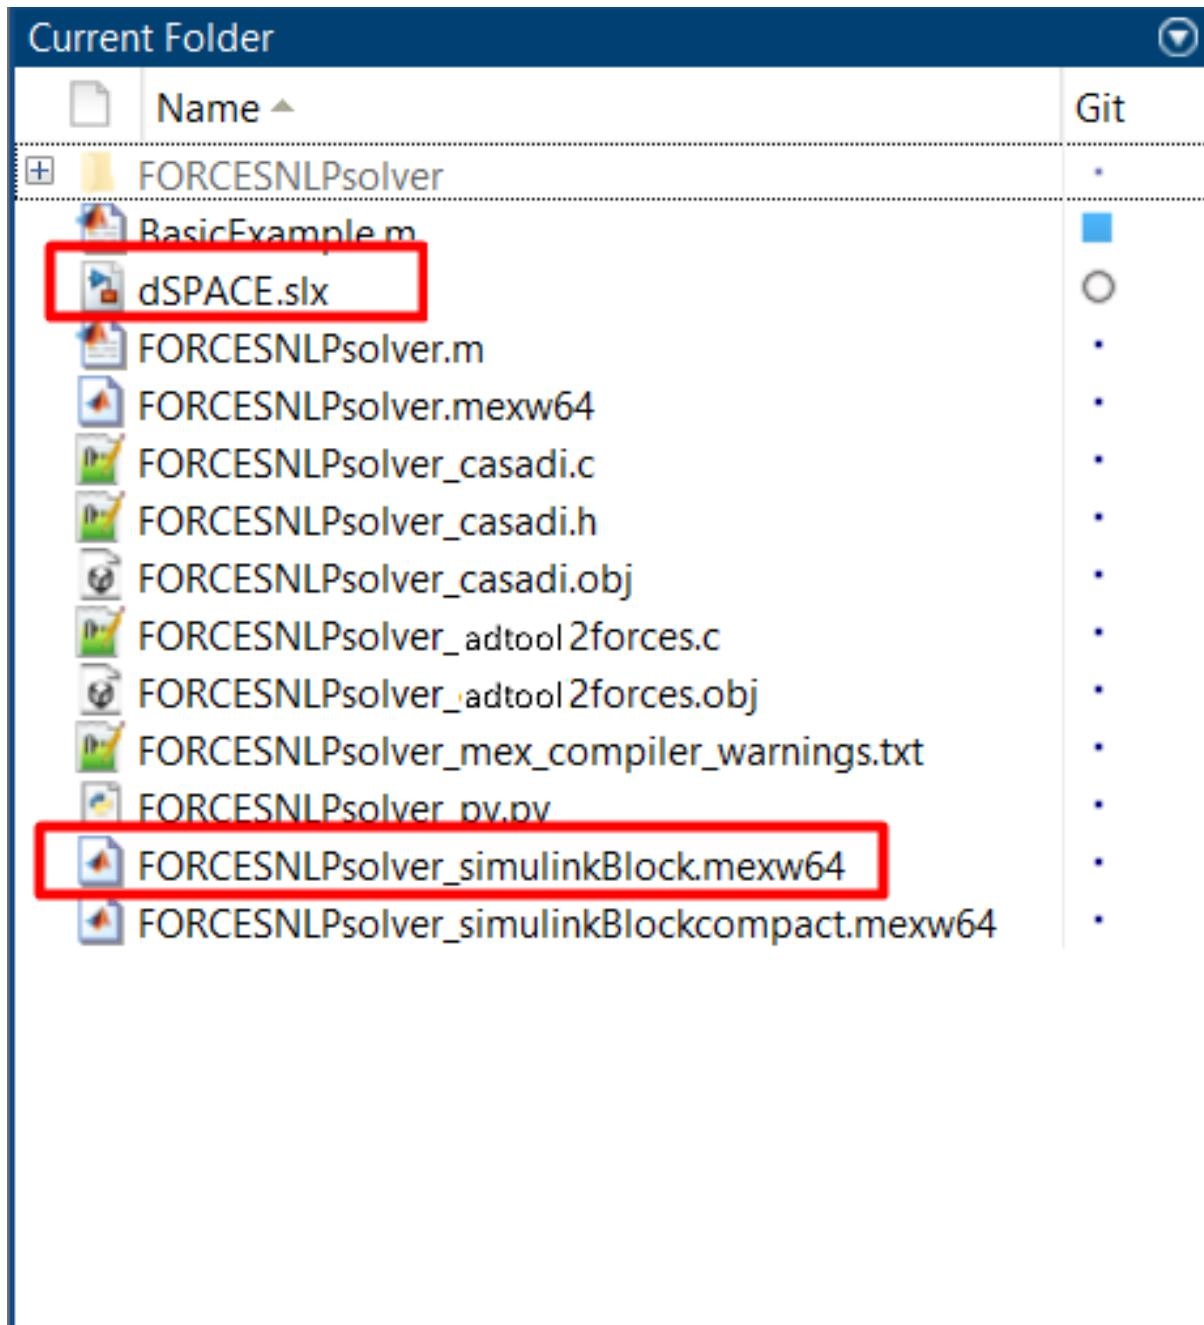

Figure 13.34: The .<mex_extension> solver file is in the same path as the model.
- 5) The `FORCESNLPsolver_simulinkBlock.<mex_extension>` file (created during code generation) needs to be in the same path as your model (see Figure 13.34).